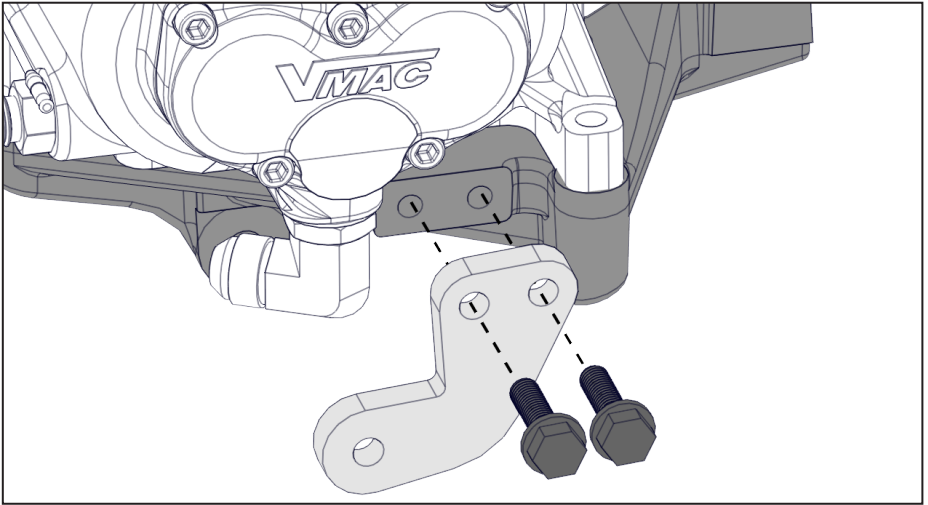

Figure 12 — Installing the rear bracket
- Install the smaller rear bracket using the (2x) M8 × 1.25 × 30 mm fasteners (Figure 12).